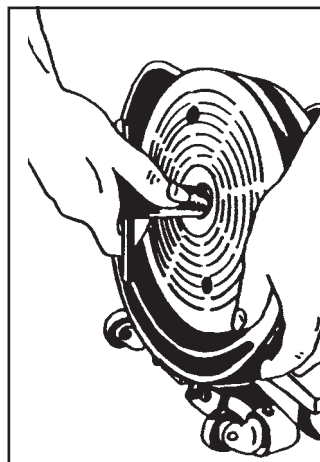

Figure 3
2. To install or replace abrasive, turn the machine upside down and let it rest on the motor cover. With the wrench supplied, remove the screw and abrasive retainer. Hold pad to prevent it from rotating and turn wrench. See figure 3.